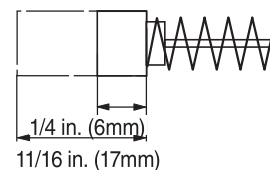
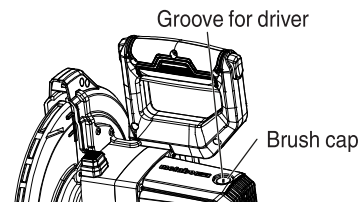

Fig. 30
Fig. 31
3. Inspecting the carbon brushes (Fig. 30 and Fig. 31)
Therefore, inspect the carbon brushes periodically and replace them when they have become worn to min. 6 mm as shown in Fig. 30.
When replacing the carbon brushes, use only metabo HPT carbon brushes having Code No. 383202 (see Fig. 30).